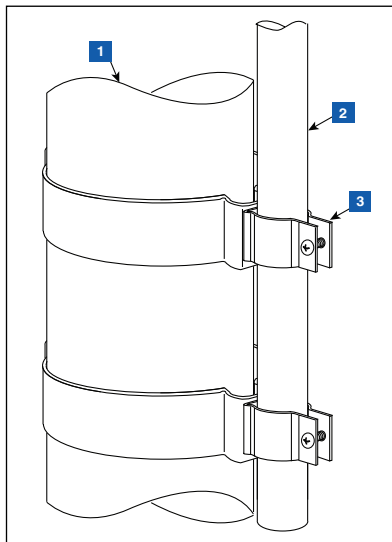

Figure 29. Attaching 12.7mm Conduit to 12.7mm Clamps on Riser
2. Attach 12.7 mm (1/2") conduit to the 12.7 mm (1/2") metal clamps as shown in Figure 29 and tighten. The clamp bolts are integral to the clamps and do not require retention nuts.
LEGEND FOR NUMBERED BOXES IN Figure 29